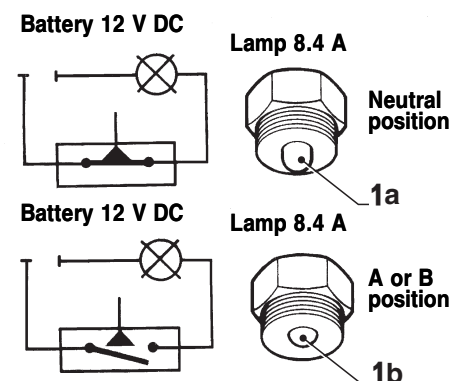

FIG. 5-3
With the pin (item 1a Fig. 5-3) extended you should get a reading, indicating a good switch.
Compressing the pin (item 1b Fig. 5-3) you should have «O» reading,
Connect the neutral safety switch with a light in series to a 12 volt battery. The switch is good when the light goes out when the center pin (item 1b Fig. 5-3) is compressed.